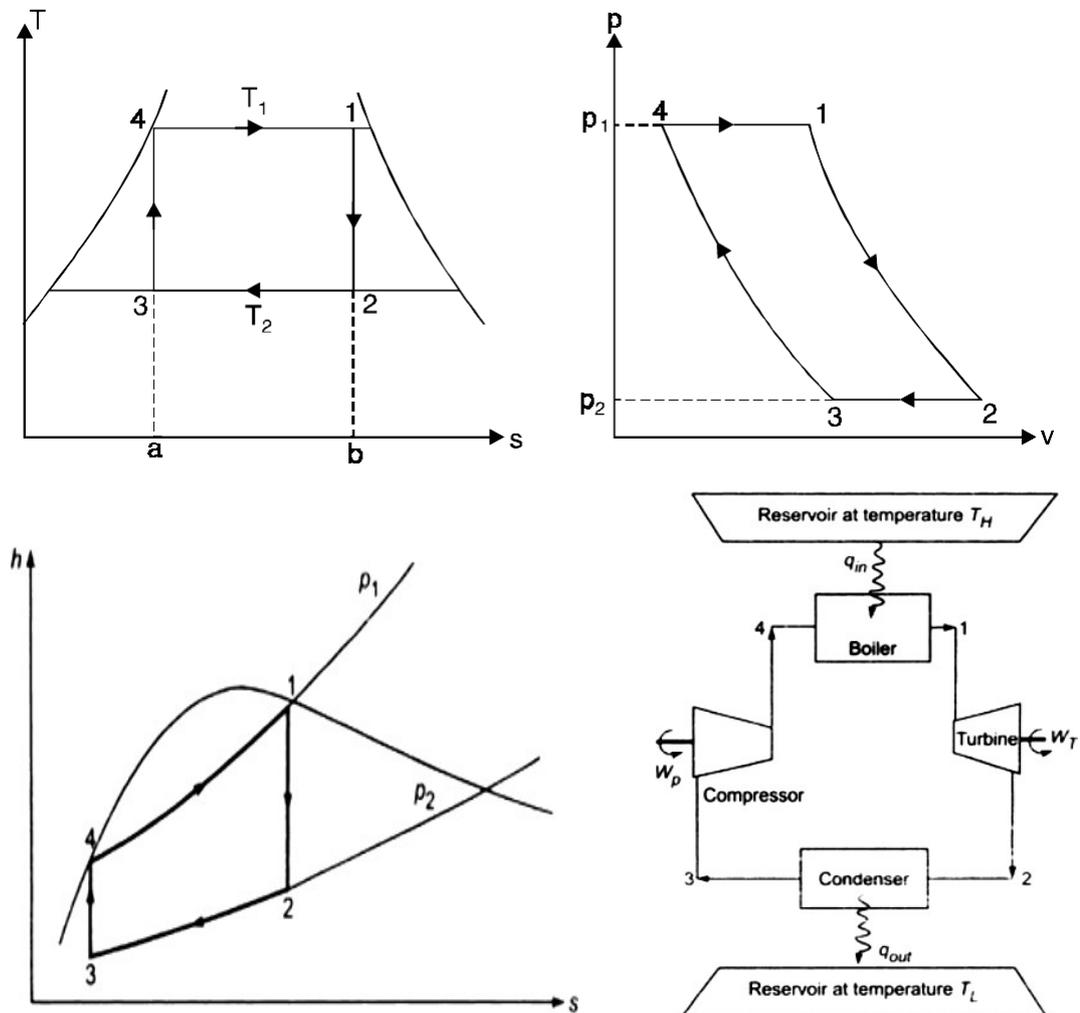

Fig. 6.1 P-v, T-S, h-S and schematic diagram of Carnot vapor cycle
- Fig. 6.1 shows P-v, T-S, h-S and schematic diagram of the Carnot cycle when steam is used as the working substance.